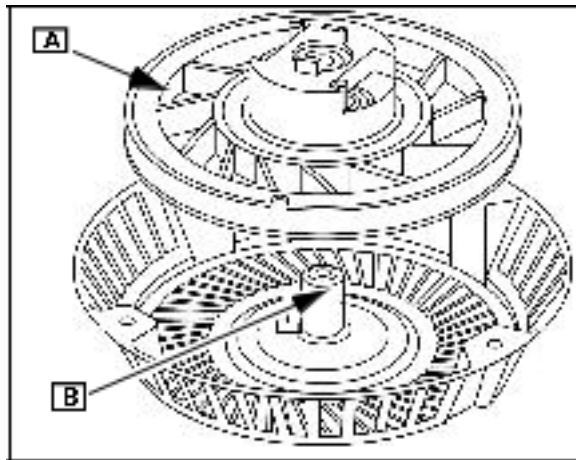

Fig. 7
(A) over center pivot post ([B] Fig. 7) in